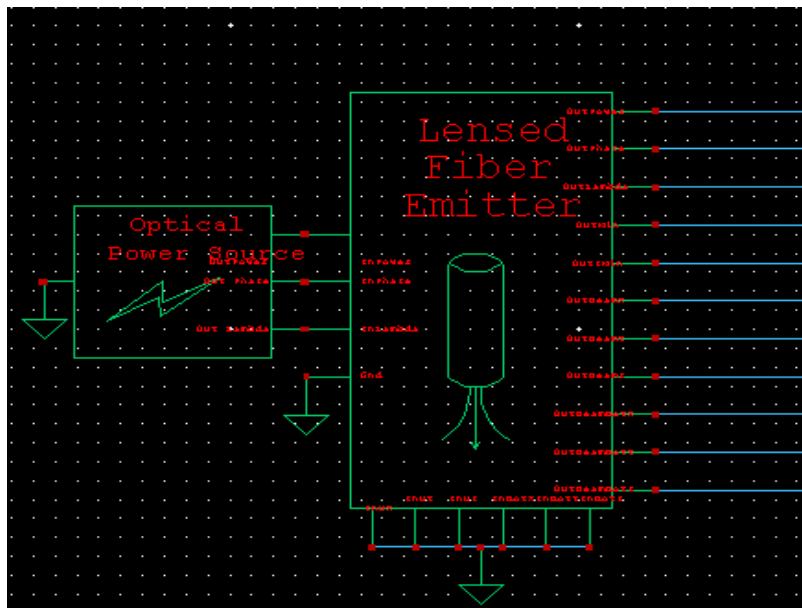

Figure 40: Connecting emitter
- The **Lensed Fiber Emitter** is connected to the optical power source of OutPower 2e-3 through its inputs, while its outputs are connected to the double-sided mirror, as shown in (Figure 40).